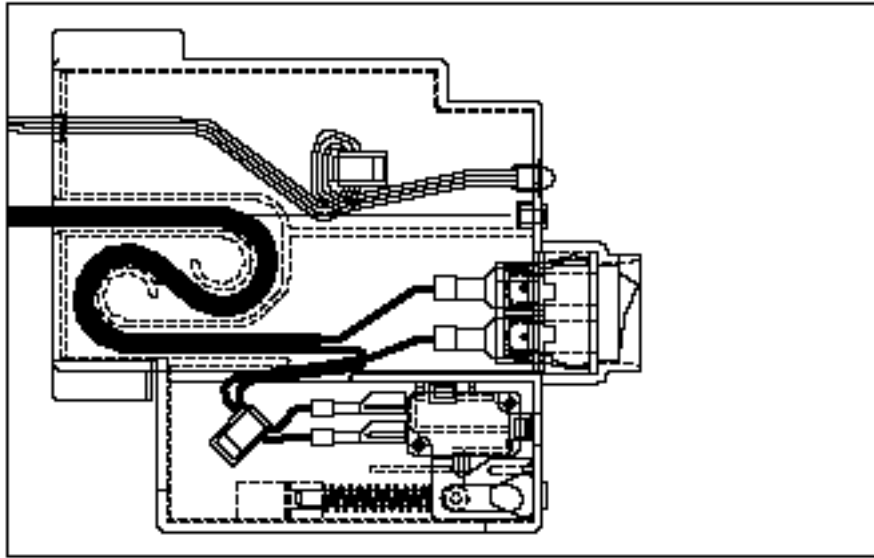

Figure 2-16. Power Supply Switch Cable Strain Relief
6. Remove interlock power switch bracket retaining screws (2).
7. Pull the bracket out and remove the power switch, safety interlock switch connectors, and cable from the bracket (refer to Figure 2-16).
NOTE: When replacing the power supply, make sure that the power switch cable is properly threaded through the bracket's strain relief as shown in Figure 2-16.